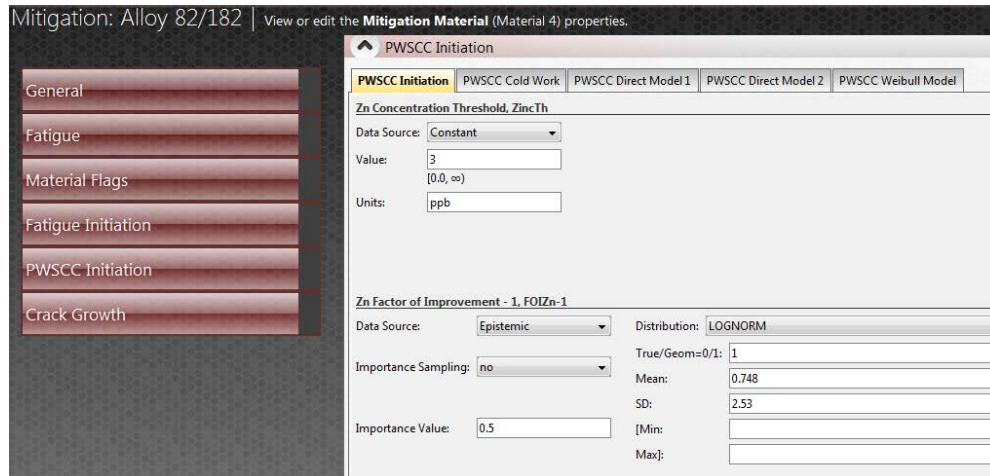

Figure 20. PWSCC Initiation panel for mitigation material.
- PWSCC initiation (*Weld* and *Mitigation Material* buttons only) (if fatigue crack initiation is selected in *Cracks*) (shown in Figure 20)